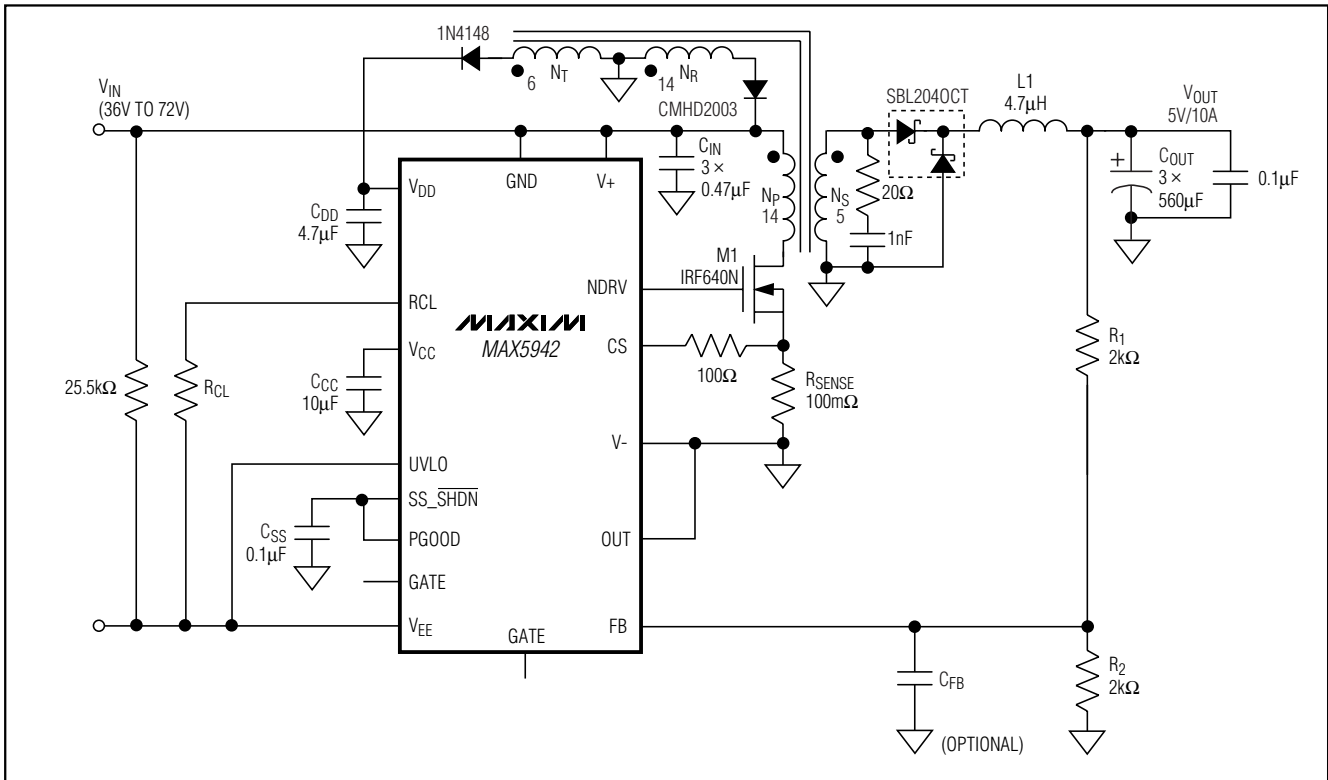

Figure 5. Forward Converter
The current-sense (CS) comparator and its associated logic limit the peak current through the MOSFET. Current is sensed at CS as a voltage across a sense resistor between the source of the MOSFET. To reduce switching noise, connect CS to the external MOSFET source through a 100Ω resistor or an RC low-pass filter (Figures 5, 6). Select the current-sense resistor, R_{SENSE} according to the following equation: